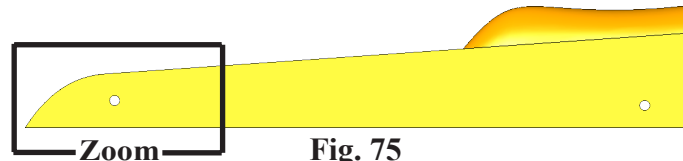

Fig. 75
Step 2. Zoom in around **front axle hole**, **Fig. 75**. To **zoom**, hold down **Shift key** and drag with middle mouse button (wheel). To **pan**, hold down **Ctrl key** and drag with middle mouse button (wheel).